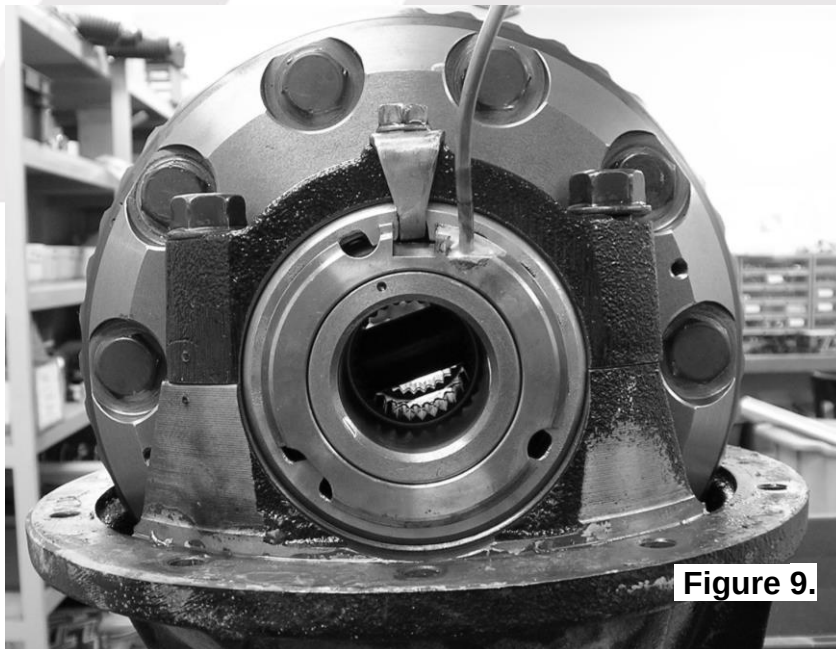

Figure 9.
- ☐ Rotate the seal housing until the square cutout lines up with the locking tab position at the center of the bearing cap. (Fig.9.)